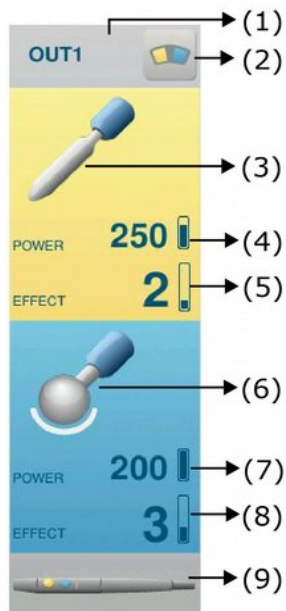

Fig. 6. Control panel for output 1.
**Fig. 6** shows the control panel for output 1, where: